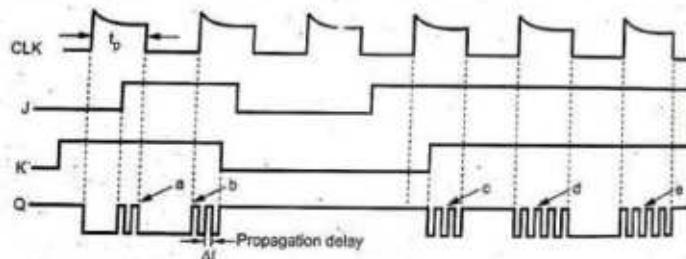

Fig. 5.4.21 Input and output waveforms for clocked JK flip-flop
- Consider that initially  $Q = 0$  and  $J = K = 1$ . After a time interval  $\Delta t$  equal to the propagation delay through two NAND gates in series, the output will change to  $Q = 1$  and after another time interval of  $\Delta t$  the output will change back to  $Q = 0$ . This toggling will continue until the flip-flop is enabled and  $J = K = 1$ . At the end of clock pulse the flip-flop is disabled and the value of  $Q$  is uncertain. This situation is referred to as the race-around condition. This is illustrated in Fig. 5.4.21.
- A more practical method for overcoming this difficulty is the use of the Master-Slave (MS) configuration.